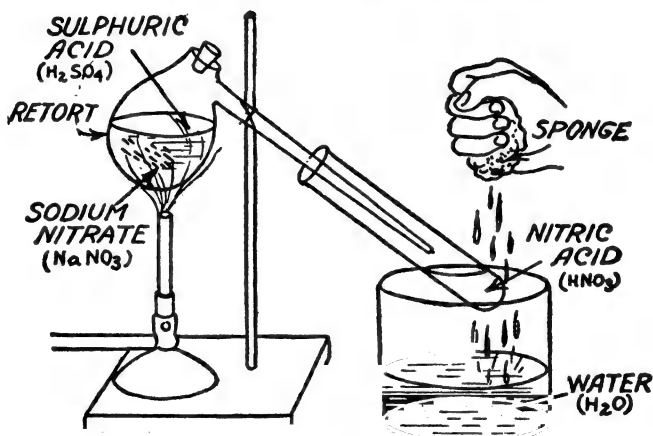

FIG. 30. APPARATUS FOR MAKING NITRIC ACID (HNO_3)
How to Make Nitric Acid.—*The Apparatus.*—To make nitric acid (HNO_3) get (1) a 2-ounce glass retort with a stopper in it, (2) a test tube and fix the retort to it, and (3) a stand, as shown in Fig. 30.